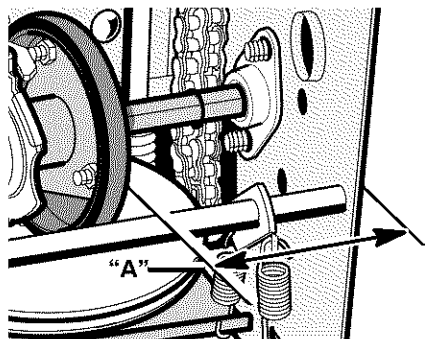

Figure 35
7. Note the position of the **friction wheel** (see Figure 35). The correct distance "A" from the right side of the **friction wheel** to the outside of the motorbox is as follows:
3. Move the **friction wheel** to the correct position (see Figure 35).